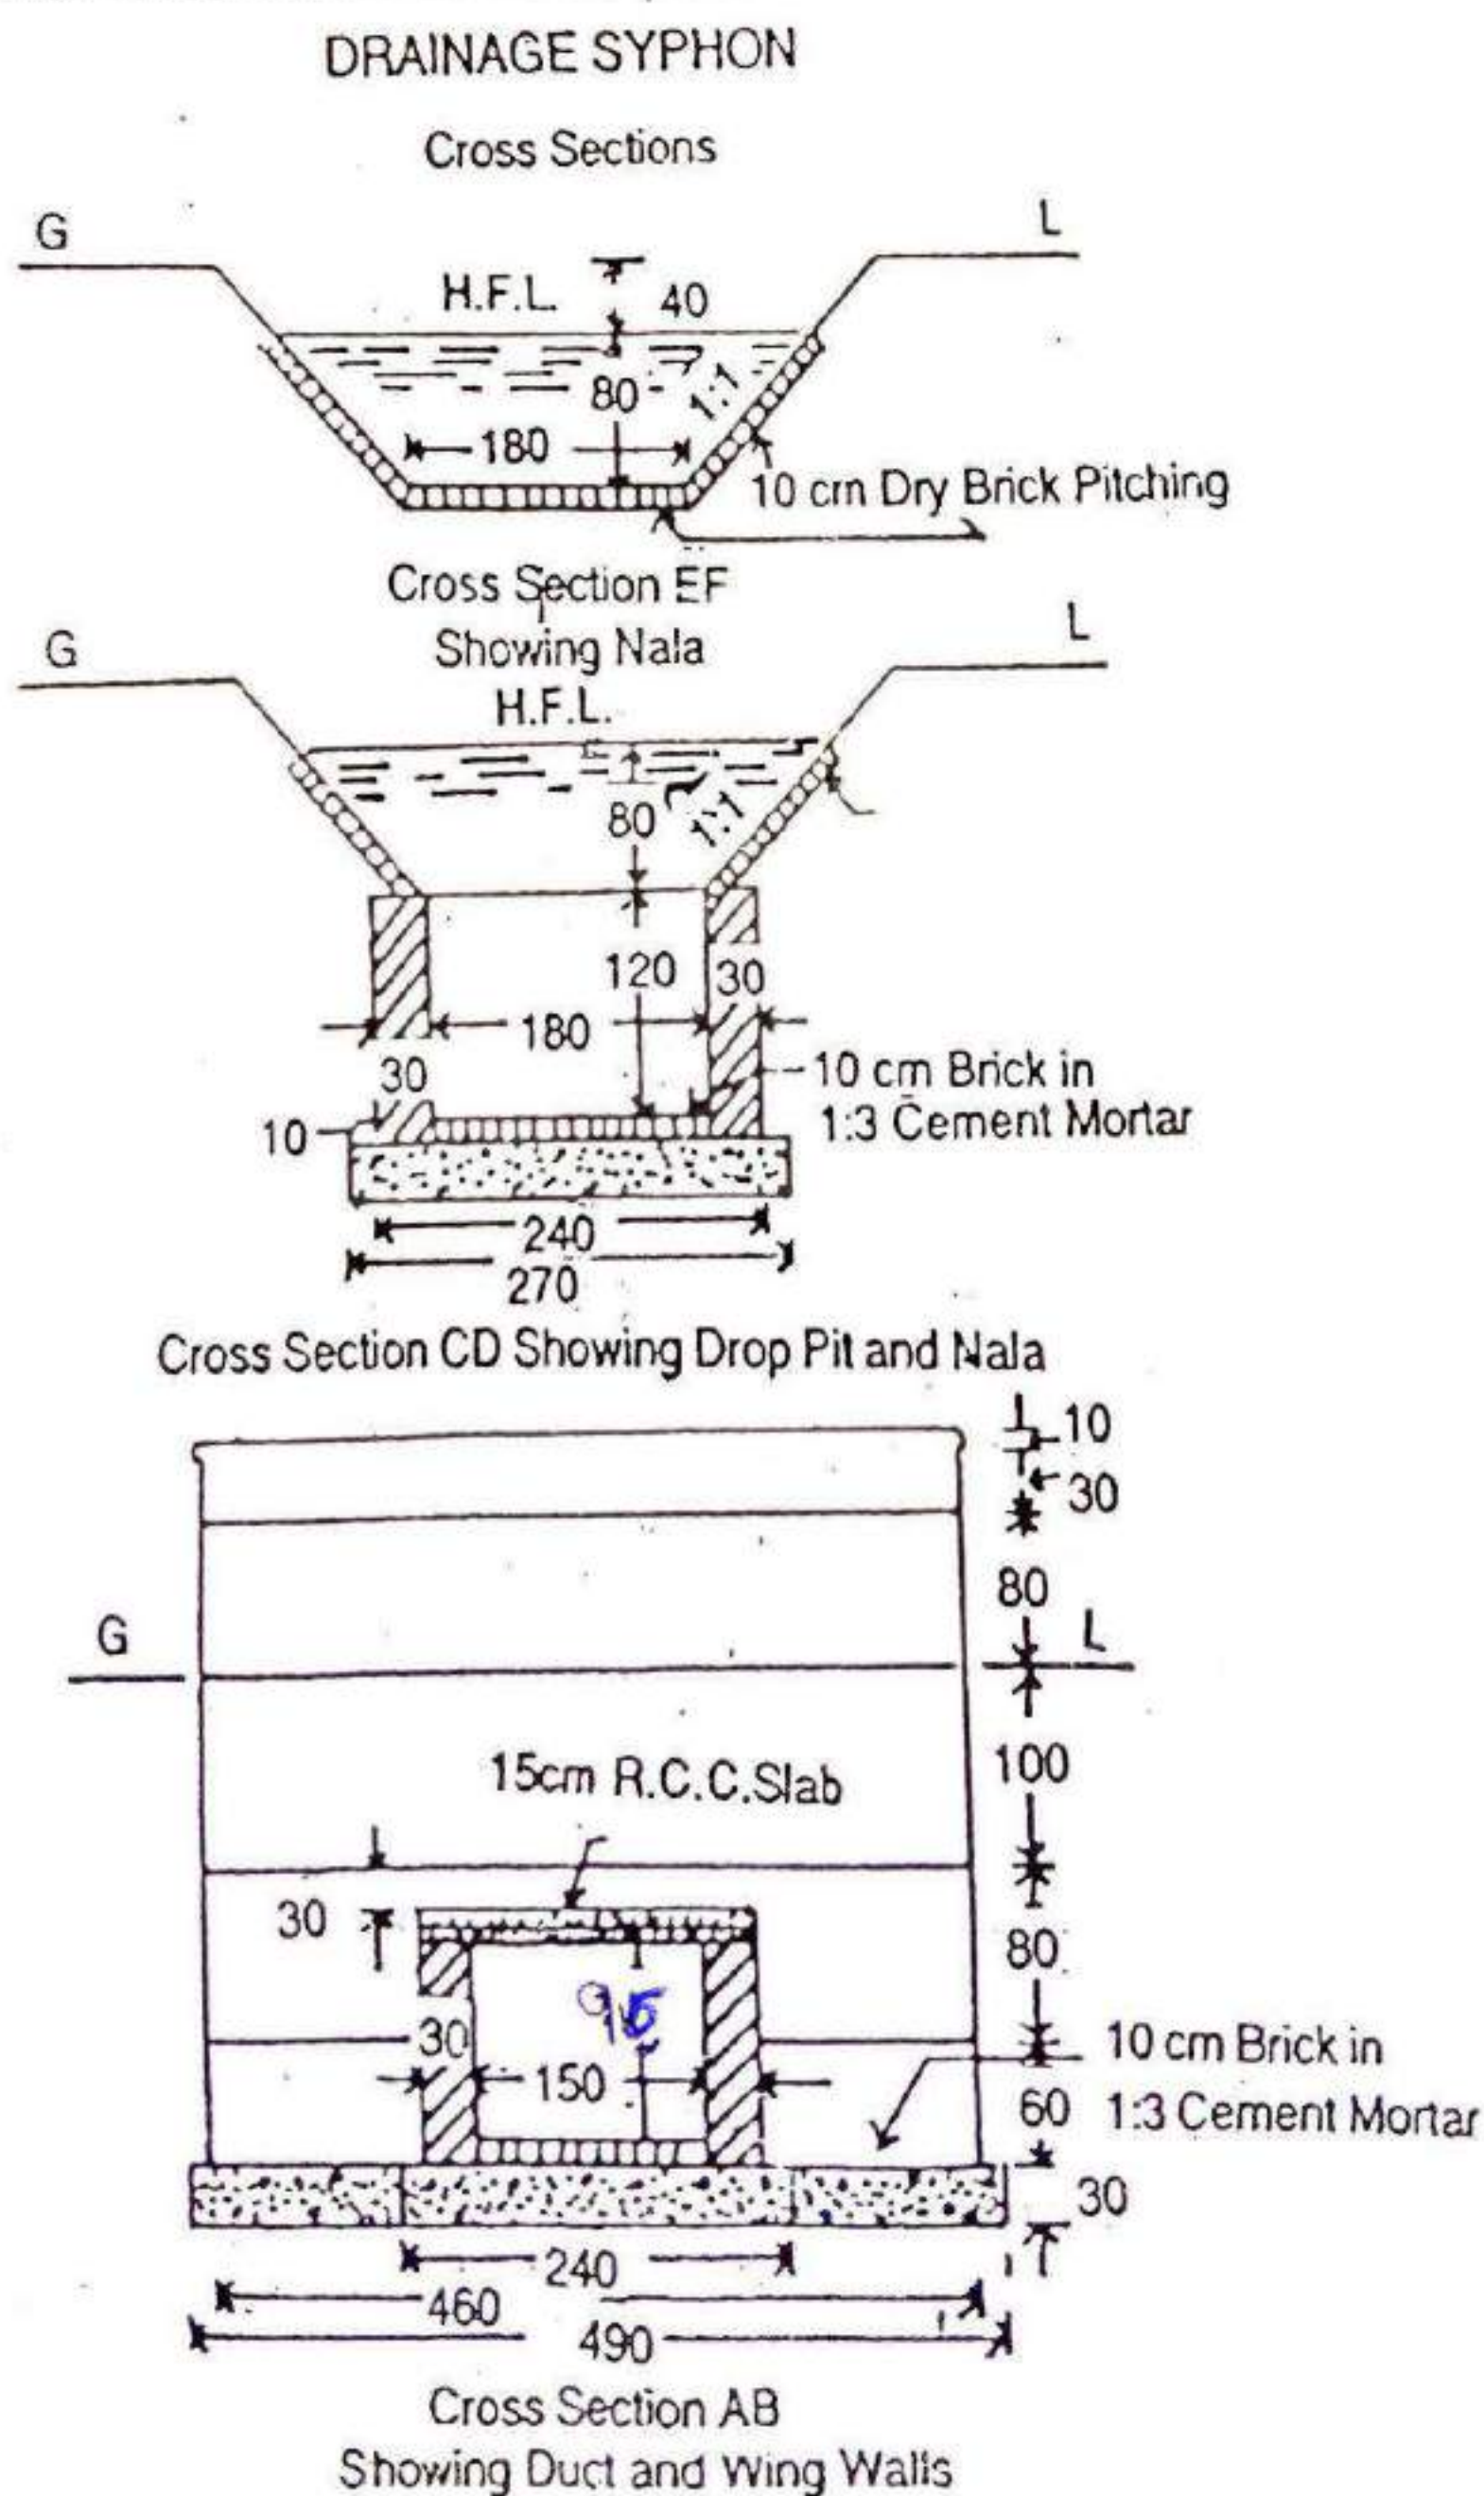

Fig. 9-8
**Example 7.** — Prepare a detailed estimate of a Drainage Syphon across a minor from the given drawing, Figs. 9-8 and 9-9.